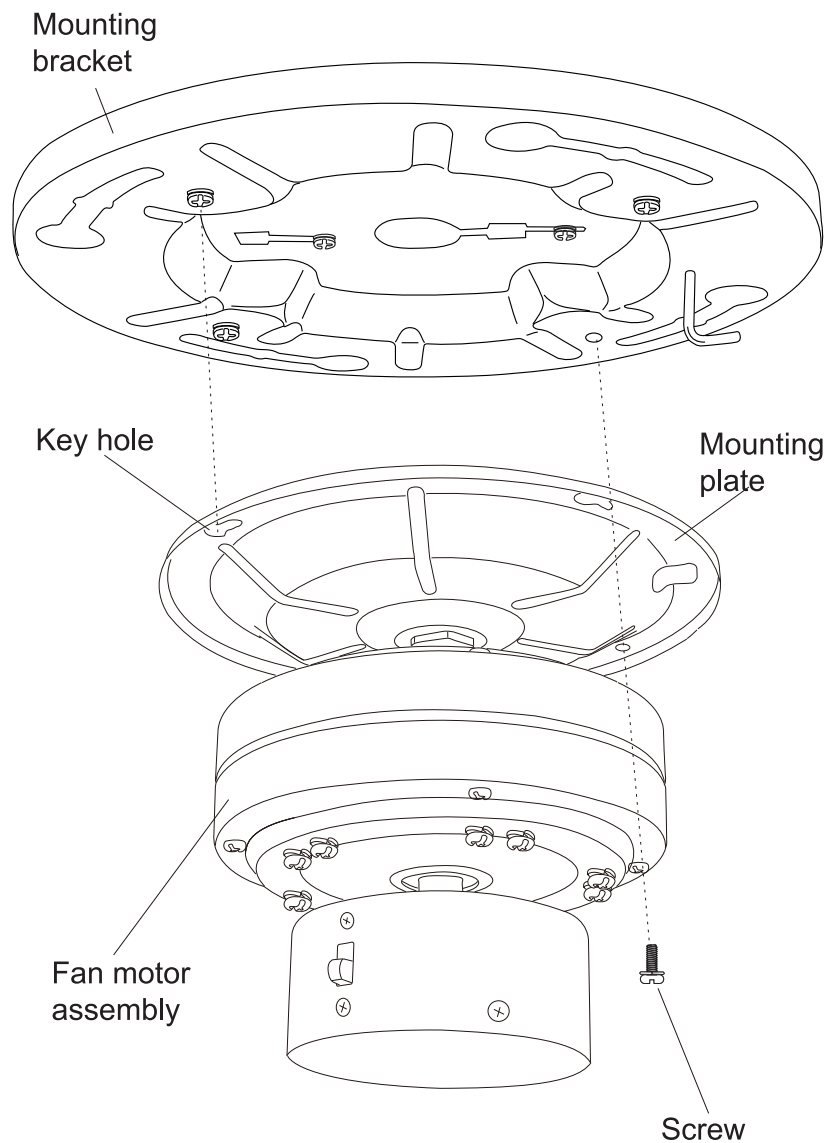

FIG. 7
Step 3. Lift and place the key holes on the mounting plate over the three screws previously loosened on the mounting bracket and turn the mounting plate until it locks in place and no longer turns. (Fig. 7)
Step 4. Secure by tightening the three screws previously loosened and the screw previously removed. (Fig. 7)